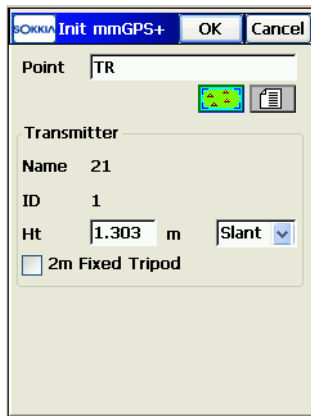

Figure 8-16. Enter Transmitter's Position
7. On the *Init mmGPS+* screen, enter the following information and tap **OK** (Figure 8-16 on page 8-16):